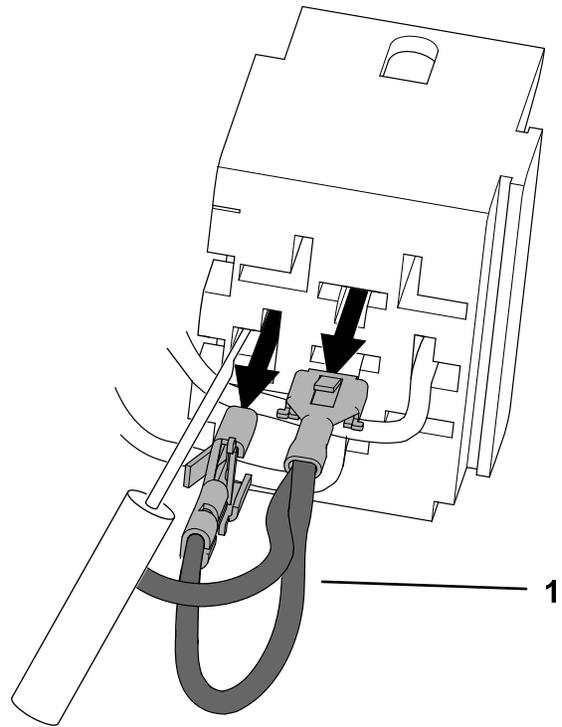

Figure 4
- Use the terminal removal tool to remove the 2 terminals for the blue wires shown in Figure 4.